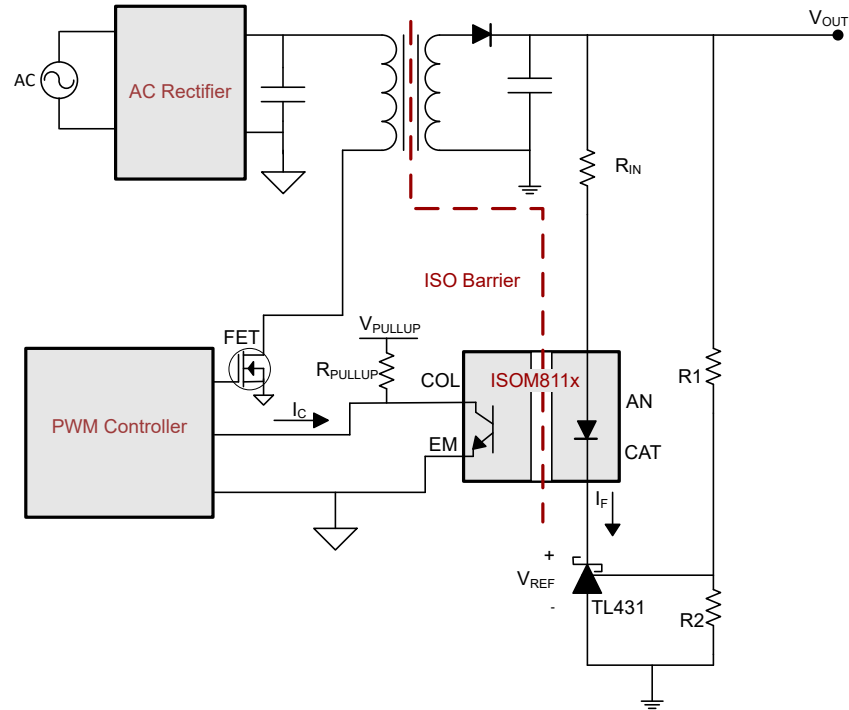

图 10-1. Typical Isolated Power Supply Application Using ISOM811x
**图 10-1** illustrates a typical isolated power supply. In this implementation, the output voltage is sensed by an error amplifier via the resistor divider (R1 and R2). Depending on the voltage level that it senses, the TL431 can drive the current of the ISOM811x higher or lower which is then compared to a voltage reference. The information is passed across the isolation barrier through ISOM811x to the primary side, where the PWM control circuit modulates the power stage to regulate the output voltage. The TL431 and ISOM811x play an important role for stable feedback and control loop.
The input side of ISOM811x is current-driven. To limit the amount of current flowing into the AN pin, it is recommended that a series resistor, R_{IN}, is used in series with the input as shown in Figure 10-1.